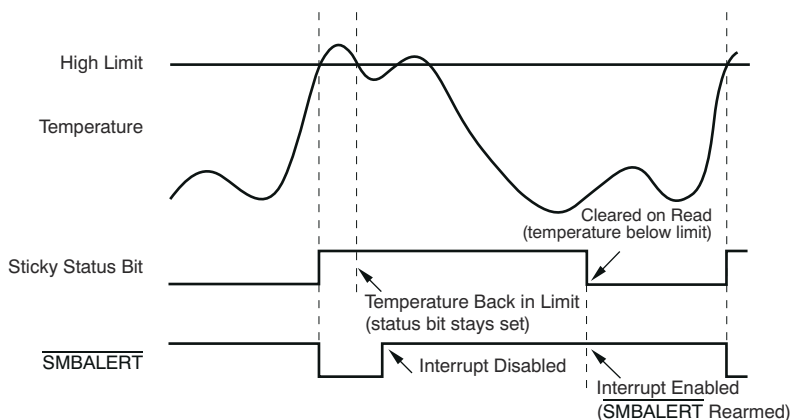

图 8-22. How Masking the Interrupt Source Affects SMBALERT
7. Periodically poll the status registers. If the interrupt source bit has cleared, reset the corresponding interrupt enable bit to '1'. This reset makes the SMBALERT output and status bits behave as shown in 图 8-22.